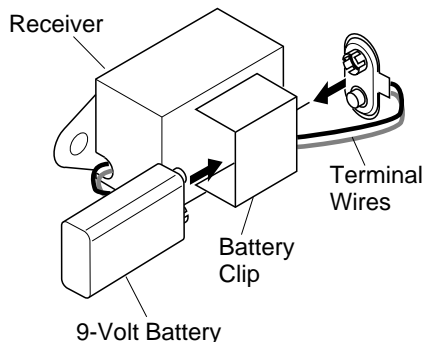

Figure 38 - Installing Battery in Receiver
4. Install battery into receiver battery clip and connect to terminals (see Figure 38).